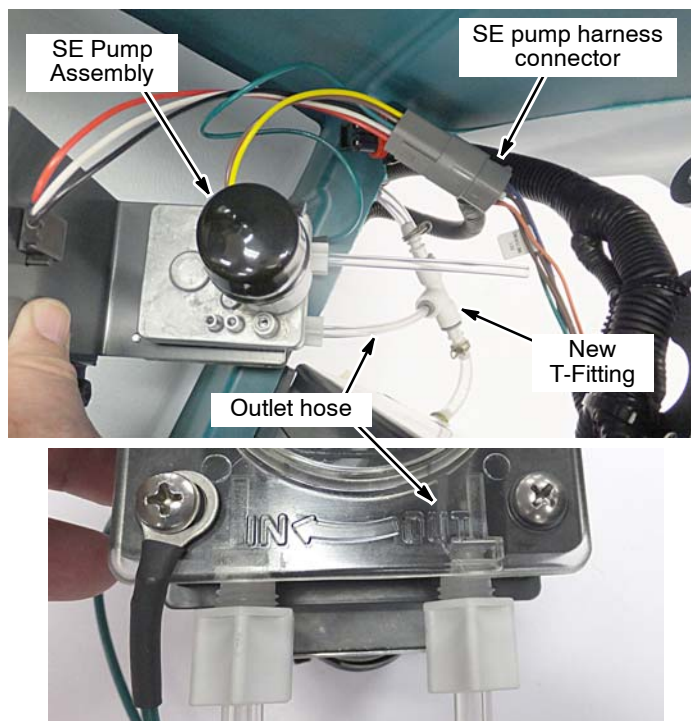

Fig. 29
5. Connect the SE pump assembly to the wire harness connector and connect the outlet hose to the new T-fitting as shown (Figure 29).